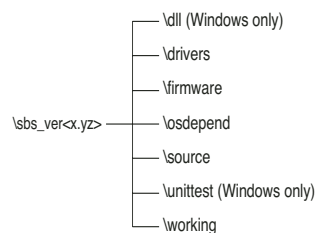

Figure 3.2.2: User Directory Structure
2. Create the SBS user directory structure shown in Figure 3.2.2 by adding *\working* and *\firmware* directories under the *\sbs_ver<x.yz>* directory, where *<x.yz>* is the version number of the current release.